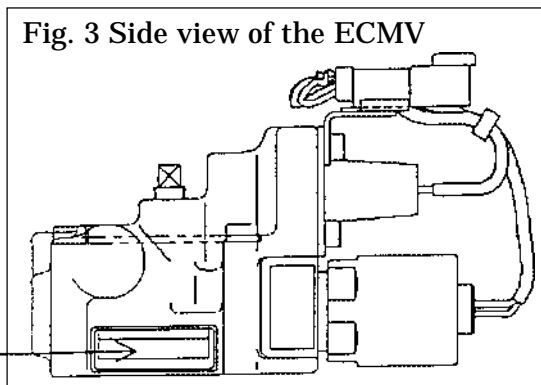

Fig. 3 Side view of the ECMV
- ④ Use the < and > SW to display the T/M initial learning screen (Figure 3) of set item 1.